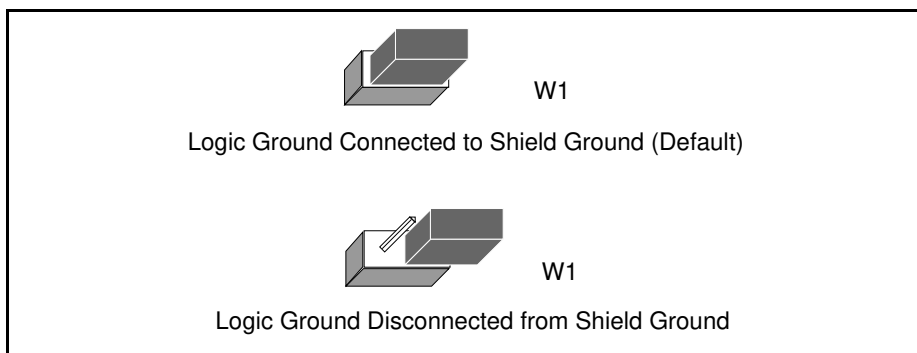

Figure 2-11. Ground Configuration Jumper Settings
2. Remove the jumper and place it across only one of the jumper pins, as shown in Figure 2-11.